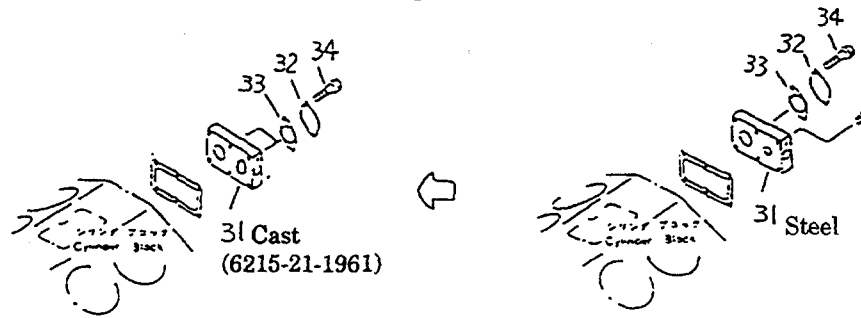

Fig. 42
- ⑩ Cast heater connector on WA800-2 (Fig. 42)